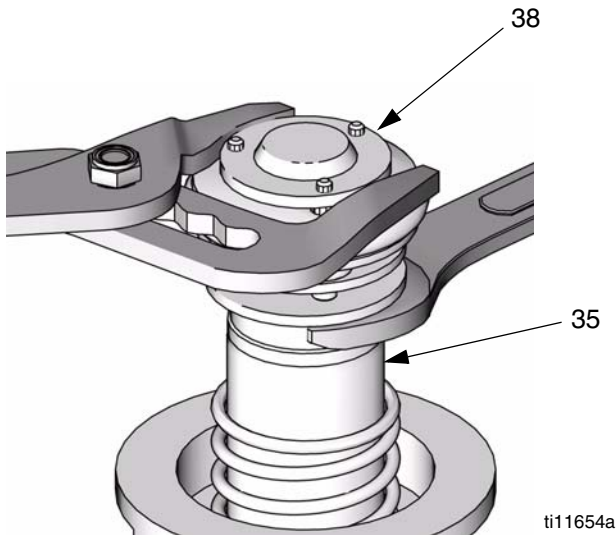
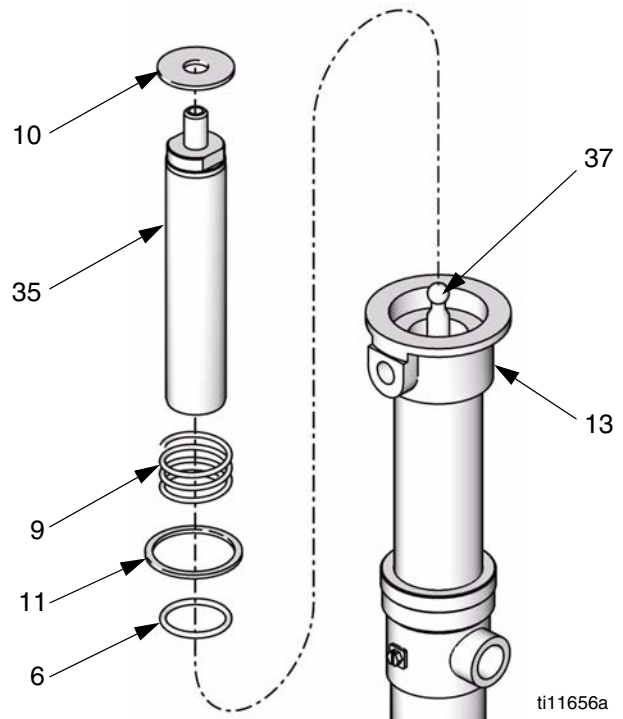

FIG. 11
FIG. 12
- Use a pliers on the top plate of the air valve piston (38) and a wrench on the piston rod (35) to unscrew the air valve piston from the piston rod. See FIG. 11.
- Remove washer (10), lower spring (9), and gasket (11). Inspect for wear or damage and replace as necessary. See FIG. 12.
- Disconnect the piston rod (35) from the pump connecting rod (37) and pull the piston rod out of the air motor base (13). Remove o-ring (6). Inspect o-ring (6) and replace if necessary.
- Reinstall o-ring (6). Reconnect the piston rod (35) and the pump connecting rod (37). See FIG. 12.
- Reinstall the gasket (11), spring (9), and washer (10). Reassemble the piston (38). Apply thread sealant to the threads of the piston rod (35) and carefully screw the piston (38) onto the rod. See FIG. 11 and FIG. 12.